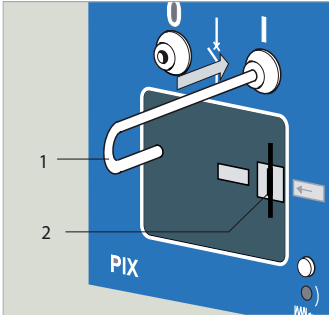

Fig. 10.19
Insert the operating rod into the right-hand guide of the front door and press it right to the back (Fig. 10.19, 1). The circuit-breaker is switched ON; the position indicator indicates "ON" (2).